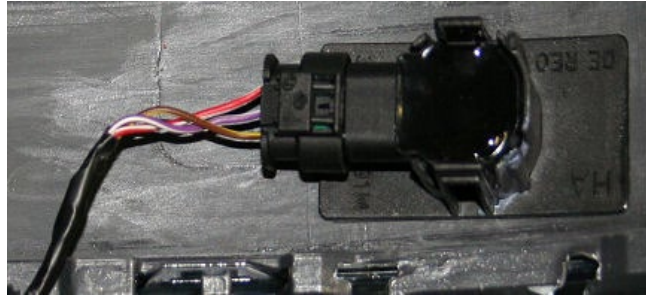

Figure 12. A correctly installed cable with sufficient length.
9. Check the cables in the bumper for damage and sufficient length (Figures 12 - 13). Cables that are too short can cause damage to the harness.